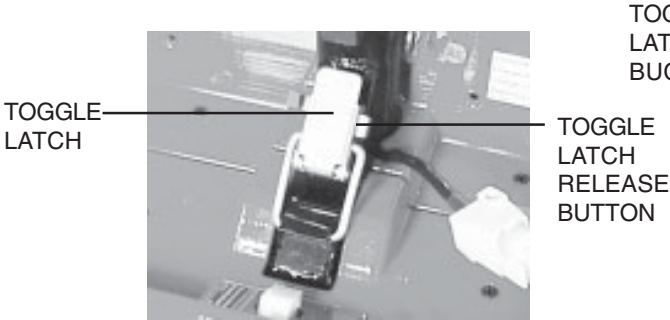

Figure 15. Toggle Latch (Latched)
- 1. Push in the toggle latch release button while pulling forward on the toggle latch. See figure 15.
5. Secure the toggle latch. See figure 15.